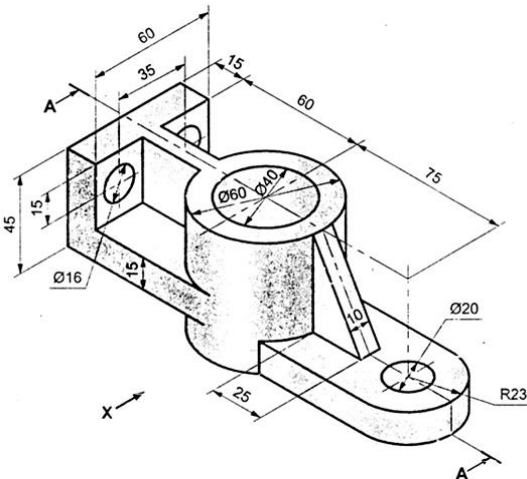

Figure 15
2. Draw the following View for Figure 15